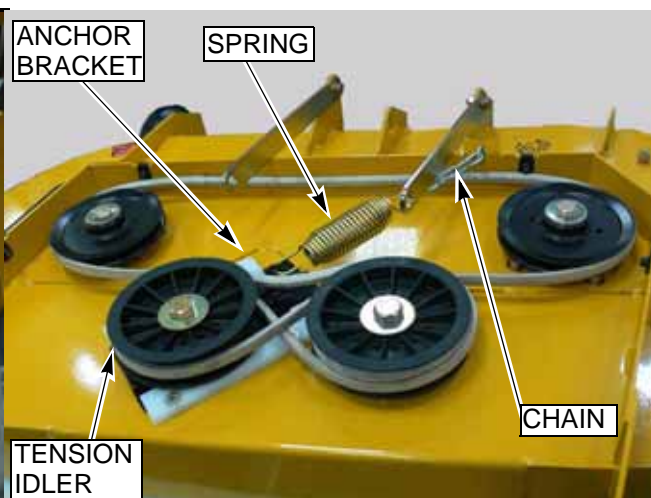

FIG. 28
4. Release the deck belt tension by pulling on the belt tension chain and sliding the chain out of the anchor bracket slot. This will relieve the tension on the deck belt idler spring. FIG. 28